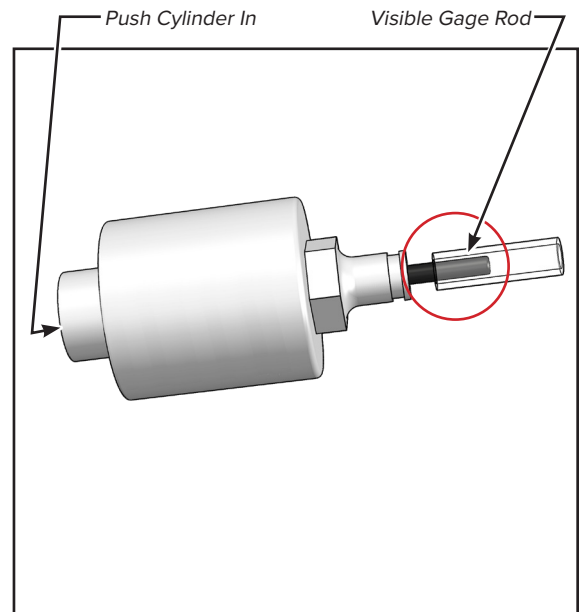

FIGURE 27
5. Manually push the cylinder back into the housing. The gauge rod should now be visible (figure 27).